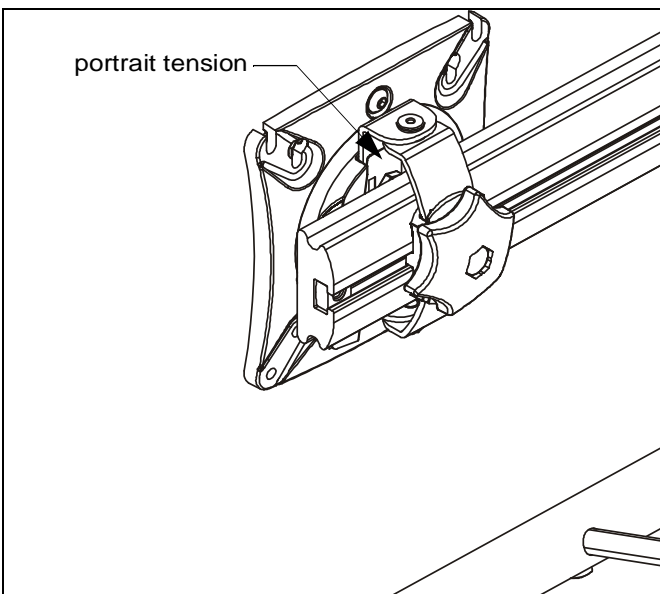

Figure 11
1. The monitor may be adjusted 90 degrees in either direction in order to provide a portrait view of the monitor. (See Figure 11)
2. Use 1/8" hex key (M) to adjust rotational adjustment screw to adjust rotational tension. (See Figure 11)